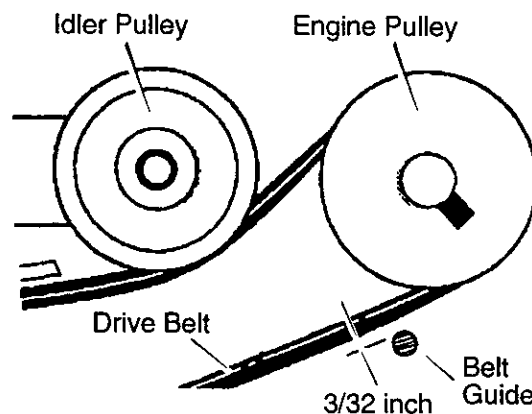

Figure 12
8. Set the belt guide to $3/32$ " clearance as shown in Figure 12.